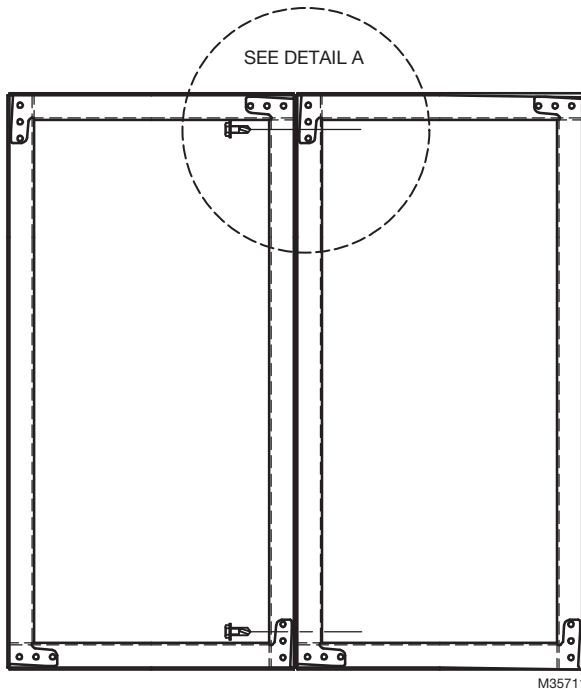

Fig. 4. Drilling and fastening frames.
2. If more than two sections wide, unit ships as a multiple section assembly and a single section together. The single section is joined to the side of the multiple section where the jackshaft extends past the frame 4 inches (see Fig. 4 and 5).